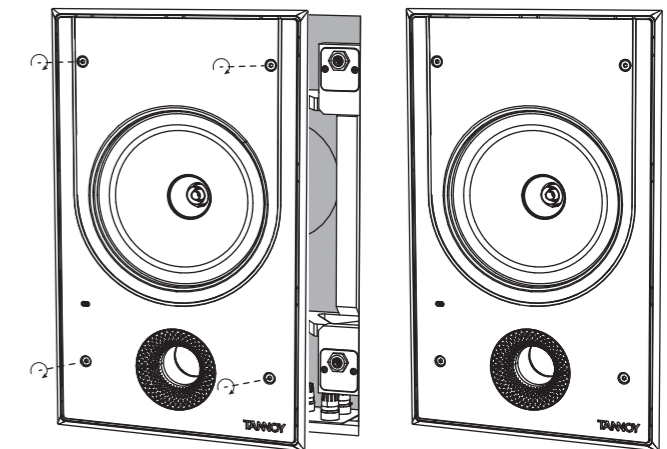

Fig. 2. Installation into the Back Can
2. Install the loudspeaker assembly into the back can, by first pressing in the four screws as far as they will go, and then hand-tightening (Fig. 2). Make sure that you do not trap the speaker wiring, or your fingers during the installation. **CAUTION:** Do not over tighten the screws - this is unnecessary to achieve a strong acoustic seal to the back can or wall, and risks damage.